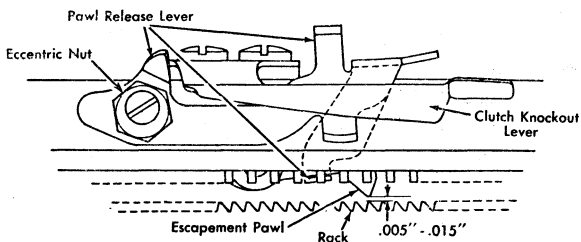

Figure 34. Pawl Release Lever Eccentric
sighting along the rear of the rack from either end of the carriage. Adjust the clearance by means of the eccentric nut on which the pawl release lever is mounted, until the pawl clears the rack by $1/64$ ". This adjustment is made with the clutch unlocked and is read with the clutch locked (Figure 34). The high point of the eccentric nut must be kept in the front half of its orbit.
6. **ESCAPEMENT PAWL CLEARANCE** should be adjusted by means of the eccentric on the pawl release lever to obtain 1/64" clearance with the escapement rack with the clutch latched (Figure 34).